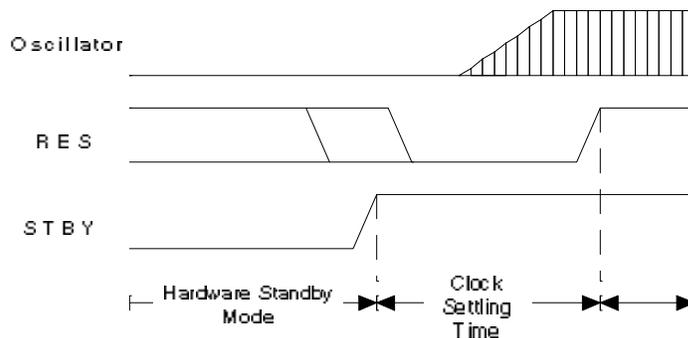

Figure 2: Exiting Hardware Standby Mode
2. reset the device by pulsing the $\overline{\text{RES}}$ pin (see Figure 2 for the timing relationships on performing this function).